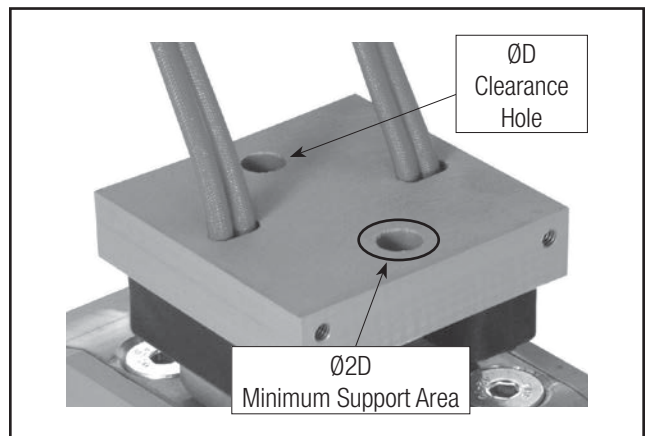

Figure 5-3 Top of Collector Showing Mounting Hole and Minimum Support Area
2. The collector assembly should be supported around the clearance hole location, out to a minimum diameter of 2 times the clearance hole diameter. See **Figure 5-3**.